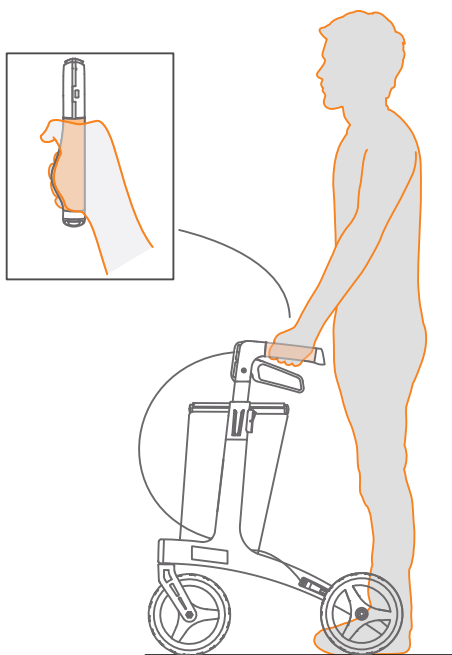

Figure 2: Correct position of the hands.
- Always position your hands in the middle of the rubber handgrips. You can recognize the correct location by the anatomical shape of the handles (**Figure 2**).